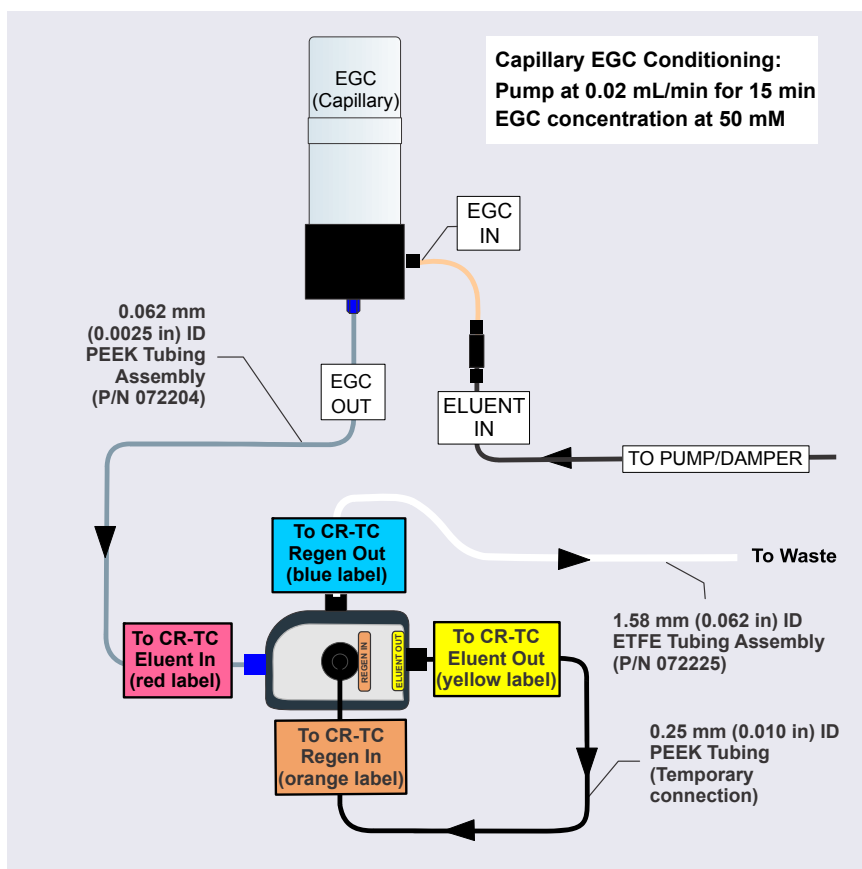

Figure 9-21. Flow Schematic for Conditioning the Capillary Dionex EGC
1. Use a high-pressure (blue) fitting bolt and ferrule to connect the **EGC OUT** line from the **ELUENT IN** port of the Dionex CR-TC to the Dionex EGC **OUTLET** port (see Figure 9-21).